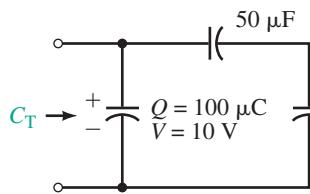

FIGURE 10-37
32. For Figure 10-37, determine C_T .